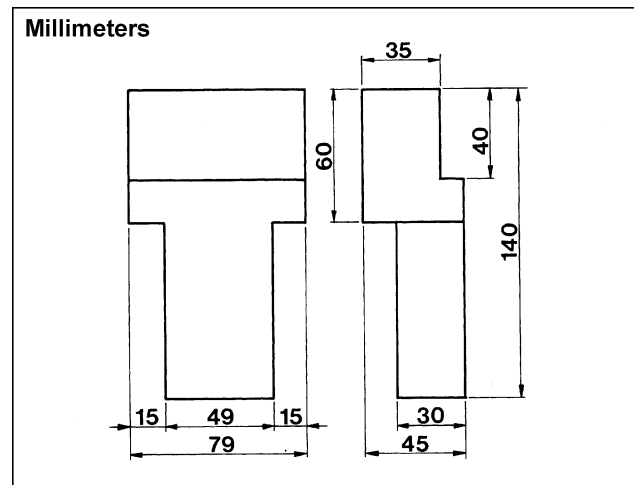

FIGURE 29
5. After a period of use, if the wood protection cap at the end of the crosscut fence is cut away, a new one must be made. See Figure 29 for the correct dimensions.